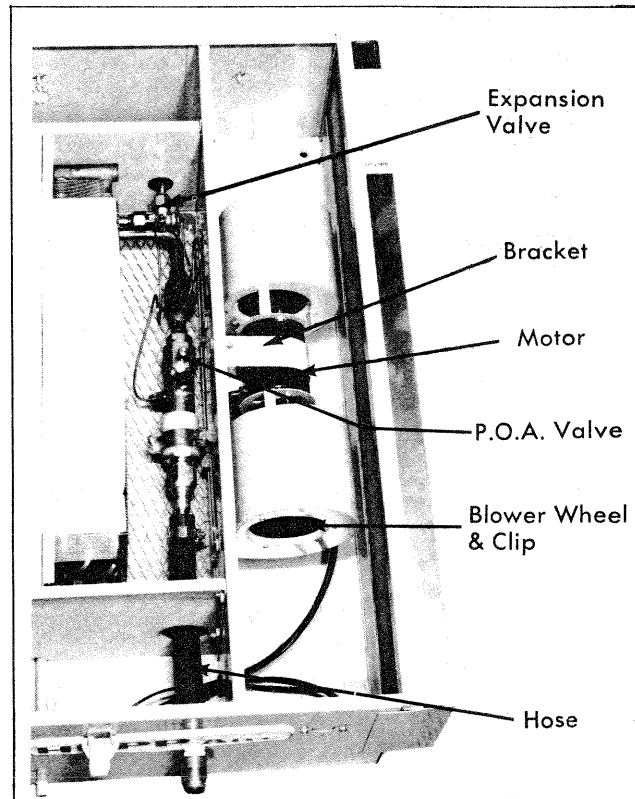

FIGURE 15
4.3.2 Evaporator Pressure Control (POA Valve) (fig 15)
4.3.7 Expansion Valve (fig. 15)